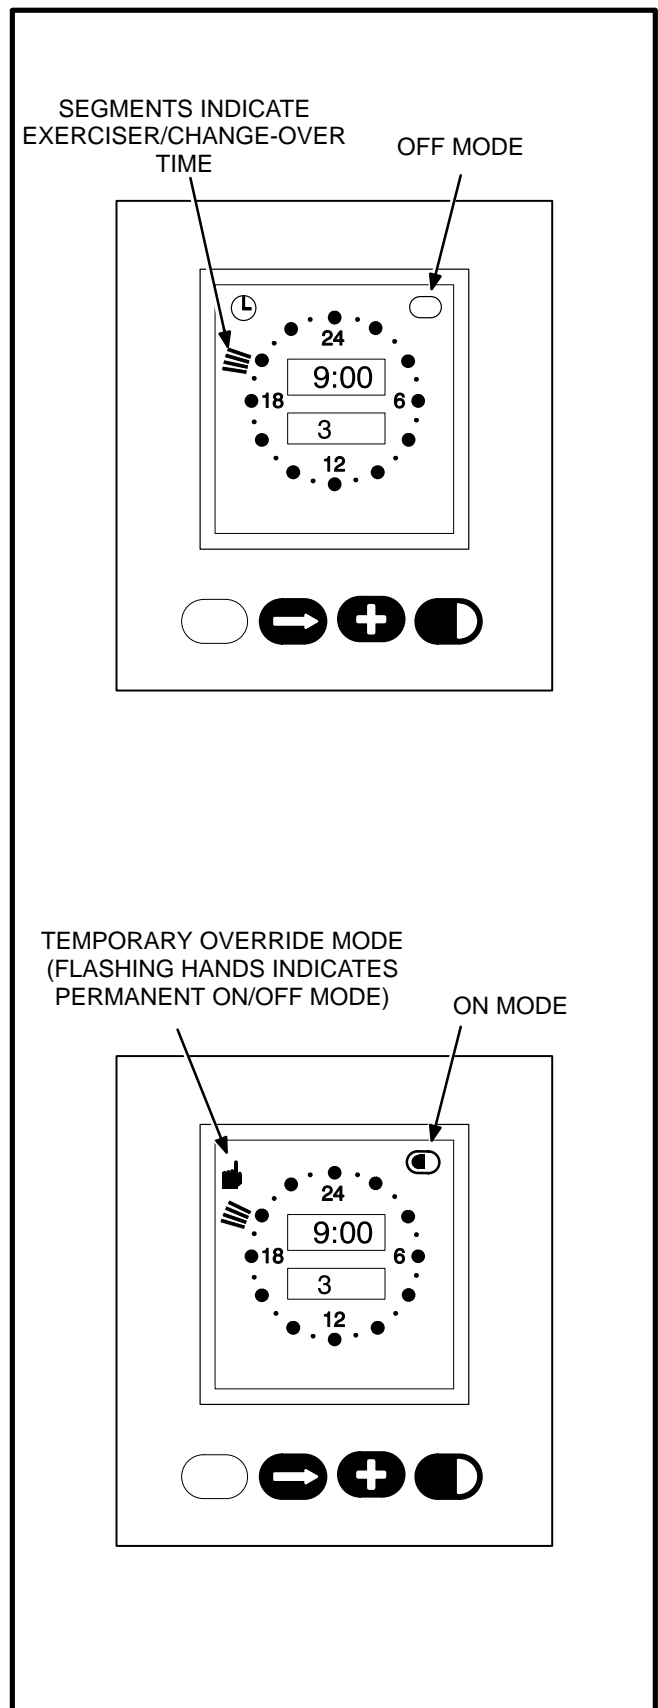

FIGURE 2. CLOCK ON/OFF MODE
3. Press the plus (+) button to increment the **Start** time of the exercise program. The display will show midnight (0:00). Note that by holding the (+) button down, the minutes will increment in 15 minute intervals. When the **Start** time is reached, press the set (⏏) button (On Mode is indicated, Figure 2).
Then increment the time with the plus (+) button to the desired **Stop** time. When the **Stop** time is reached, press the set (⏏) button (Off Mode is indicated, Figure 2).
Note that the exercise time is indicated by a band of segments illuminated around the outer ring of the clock from the start to the stop time (Figure 2).
During the exercise period, the ON mode is indicated in the ellipse in the upper right corner of the display (Figure 2).
3. Press the plus (+) button to increment the **Start** time of the change-over program. The display will show midnight (0:00). When the **Start** time is reached, press the set (⬇) button (On Mode is indicated, Figure 2).
Then increment the time with the plus (+) button to the desired **Stop** time. When the **Stop** time is reached, press the set (⬇) button (Off Mode is indicated, Figure 2).
Note that the change-over time is indicated by a segment illuminated around the outer ring of the clock from the start to the stop time (Figure 2). Note also that the genset will start and continue to run after the five minute ON time expires until the next program ON time.
During the change-over period, the ON mode is indicated in the ellipse in the upper right corner of the display (Figure 2).
With the normal source connected and available, pressing the set (⬇) button once will initiate an exercise test. A hand will be displayed in the upper left corner of the display and the On mode will be indicated inside the ellipse in upper right corner of the display (Figure 2). Pressing the set (⬇) button again will stop the exercise test and the ellipse will indicate the OFF mode.
To temporarily override an activated exercise program, *momentarily* press the set (⬇) button. A small hand will appear in the upper left corner of the display (Figure 2). The current program will be overridden and the clock will automatically set for the next program. Momentarily pressing the set (⬇) button again will return to the current program.
Changeover Applications: Pressing the set (⬇) button once will initiate a changeover. A hand will be displayed in the upper left corner of the display and the On mode will be indicated inside the ellipse in upper right corner of the display (Figure 2). Press the set (⬇) button again after the genset is running and the changeover will continue. The ellipse will indicate the OFF mode. Repeat this procedure to change back to the original genset.
Holding the set (**■**) button down until a *flashing hand appears* in the upper left corner of the display initiates the permanent On/Off mode (Figure 2).